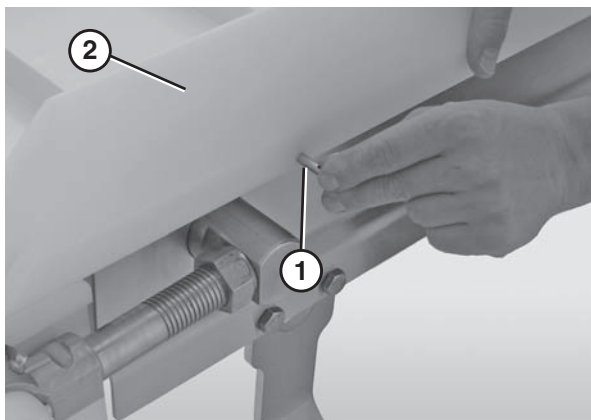

Figure 41
1. Remove the pull pins (**Figure 41, item 1**) that connect the guide (**Figure 41, item 2**) to the frame.